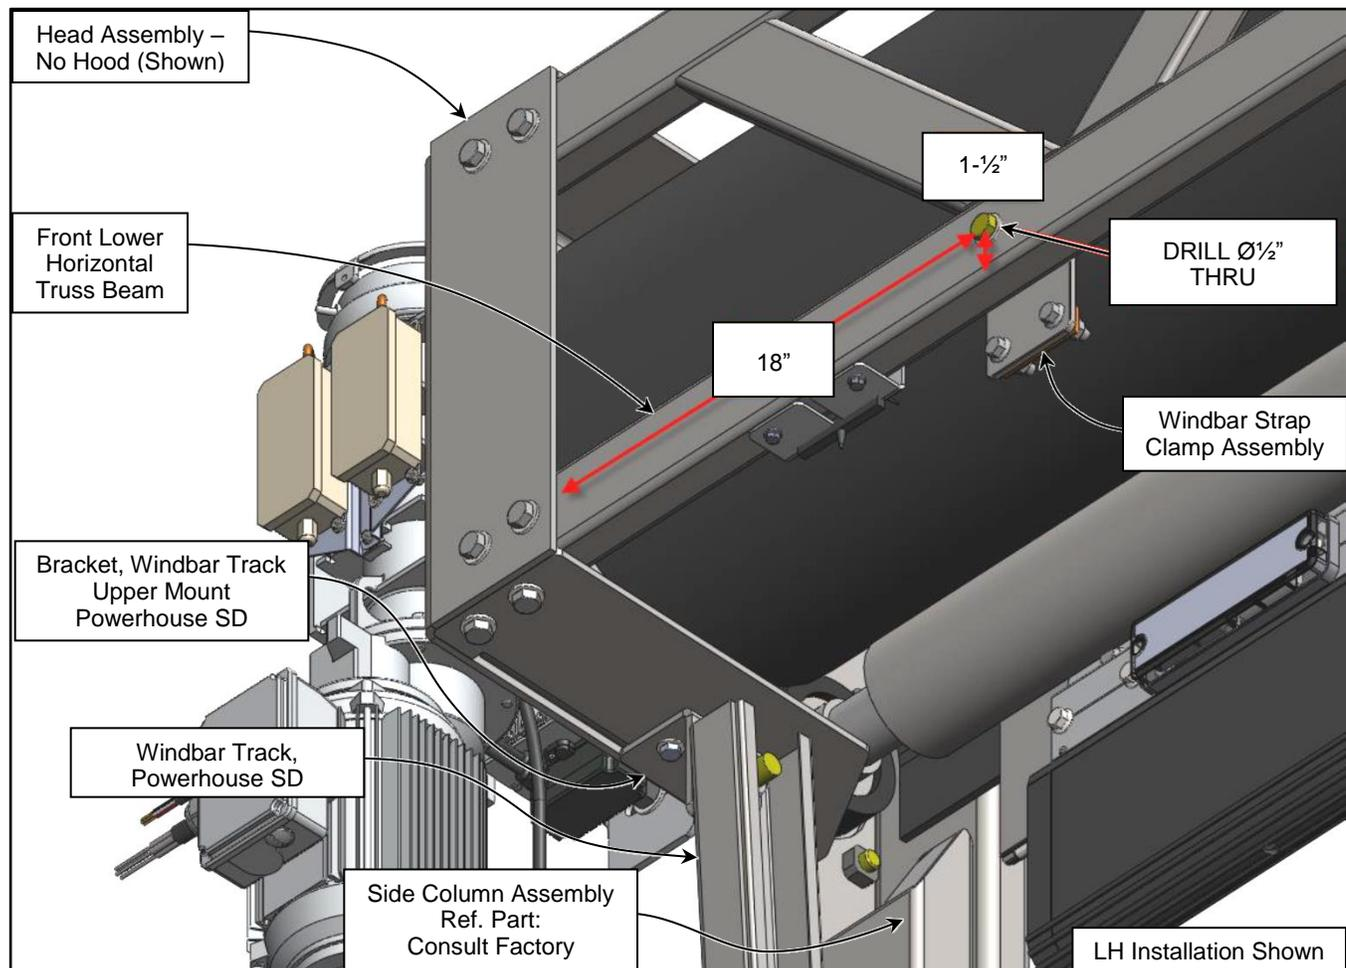

Figure 43
2. Mark the locations for the (2)  $\text{\O}1/2$ " holes required in the lower horizontal beam truss member for the Front Strap Clamp Assemblies as shown. 18" Horizontally from the front end plate inner edge and 1-1/2" Vertically to the centerline of the lower horizontal beam truss. (See Figures 43 & 44)
3. Making sure holes are perpendicular, drill the  $\text{\O}1/2$ " holes completely through the truss beam. Using a small pilot hole aids in maintaining hole location precision. (See Figures 43 & 44)
5. Mount the windbar strap clamp assemblies thru the drilled holes in the lower truss beam as shown. Install the bolts into the nuts so full thread engagement into the nut's nylock is achieved. The strap clamp must be able to swivel freely. DO NOT OVER TIGHTEN THE BOLTS! (See Figures 43 & 44)